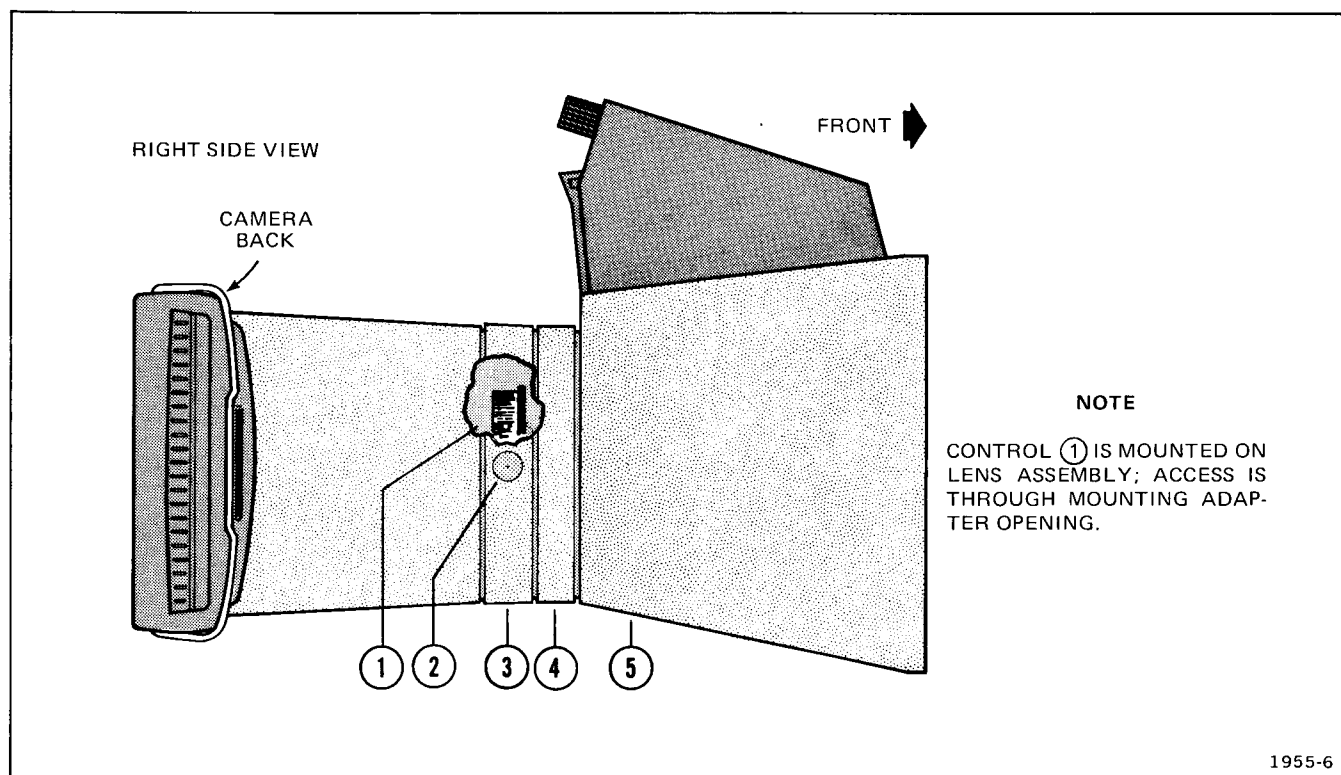

Fig. 2-1. Camera control locations.
### Camera (Fig. 2-1)
- ① **Speed Selector (mounted on the lens section).** Controls the time that the shutter admits light to the optical system. The speeds are Time (T); Bulb (B); and 1/5, 1/10, and 1/25 second.
- ② **SHUTTER Button.** Actuates the shutter, which admits light to the optical system. In the Bulb (B) position of the Speed Selector, the shutter is opened when the button is pushed, and closed when released. In the Time (T) position of the Speed Selector, the shutter is opened by pushing and releasing the button once, and closed by pushing and releasing it a second time.
- ③ **Lens-Shutter Housing.** See description of Magnification Spacer.
- ④ **Magnification Spacer.** The positions of the Lens-Shutter Housing and Magnification Spacer determines the magnification factor of the camera. When the Magnification Spacer is farthest from the camera back, as shown in Fig. 2-1, the factor is 0.67. When the spacer is between the camera back and the Lens-Shutter Housing, the factor is 0.85.
- ⑤ **Camera-Mounting Adapter.** Used to mount the camera on the instrument to be photographed.
- b. Figure 2-1 and its text identify the correct position for the lens-shutter housing and magnification spacer sections.